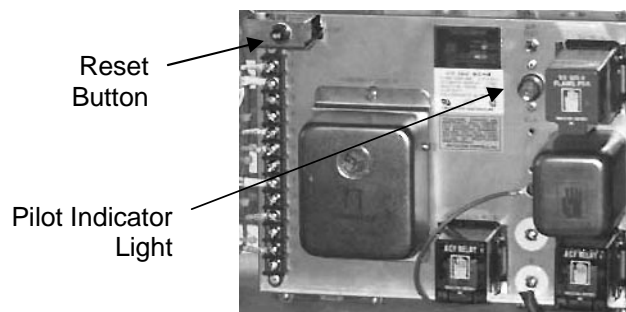
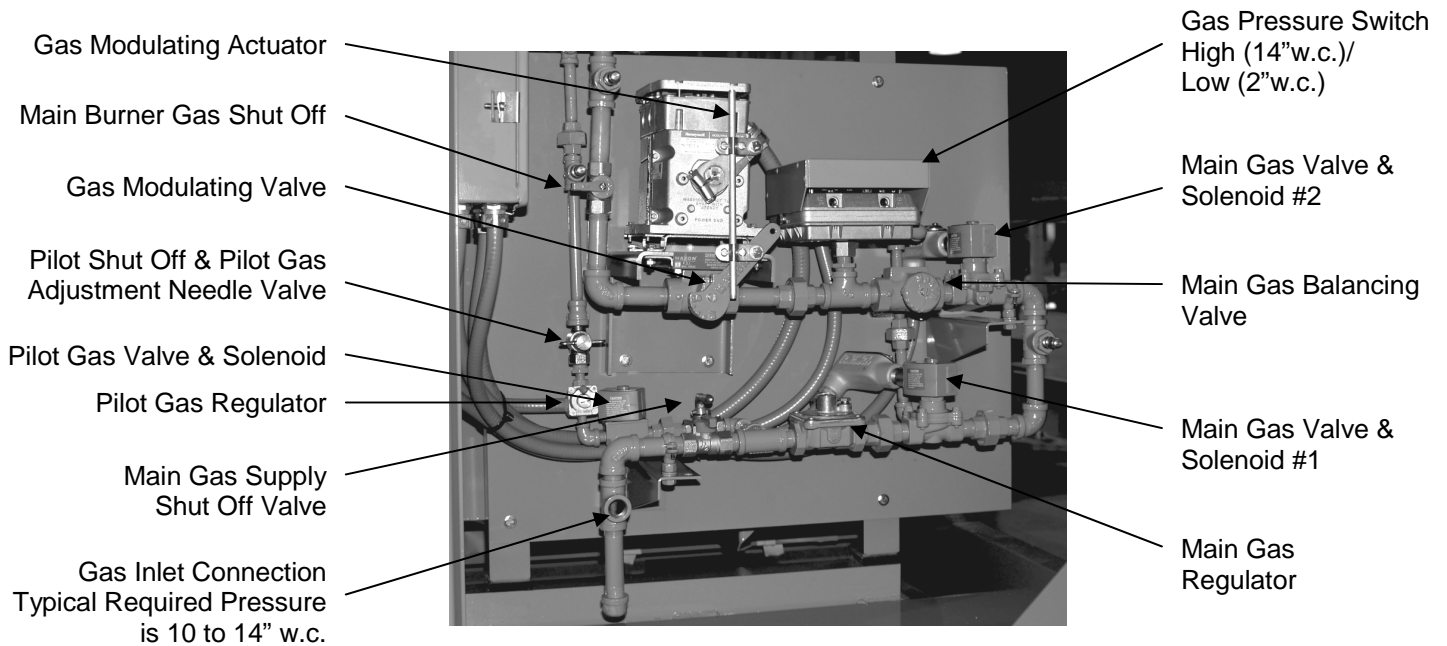

Figure 5 - Flame Control Panel
Figure 7 - Gas Train Assembly
5. To light and adjust the gas pilot: Open the main fuel gas valve and open pilot gas valve (See Figure 7). Start unit and ensure the pilot indicator light illuminates (See Figure 5). Observe pilot ignition through the burner viewing window.